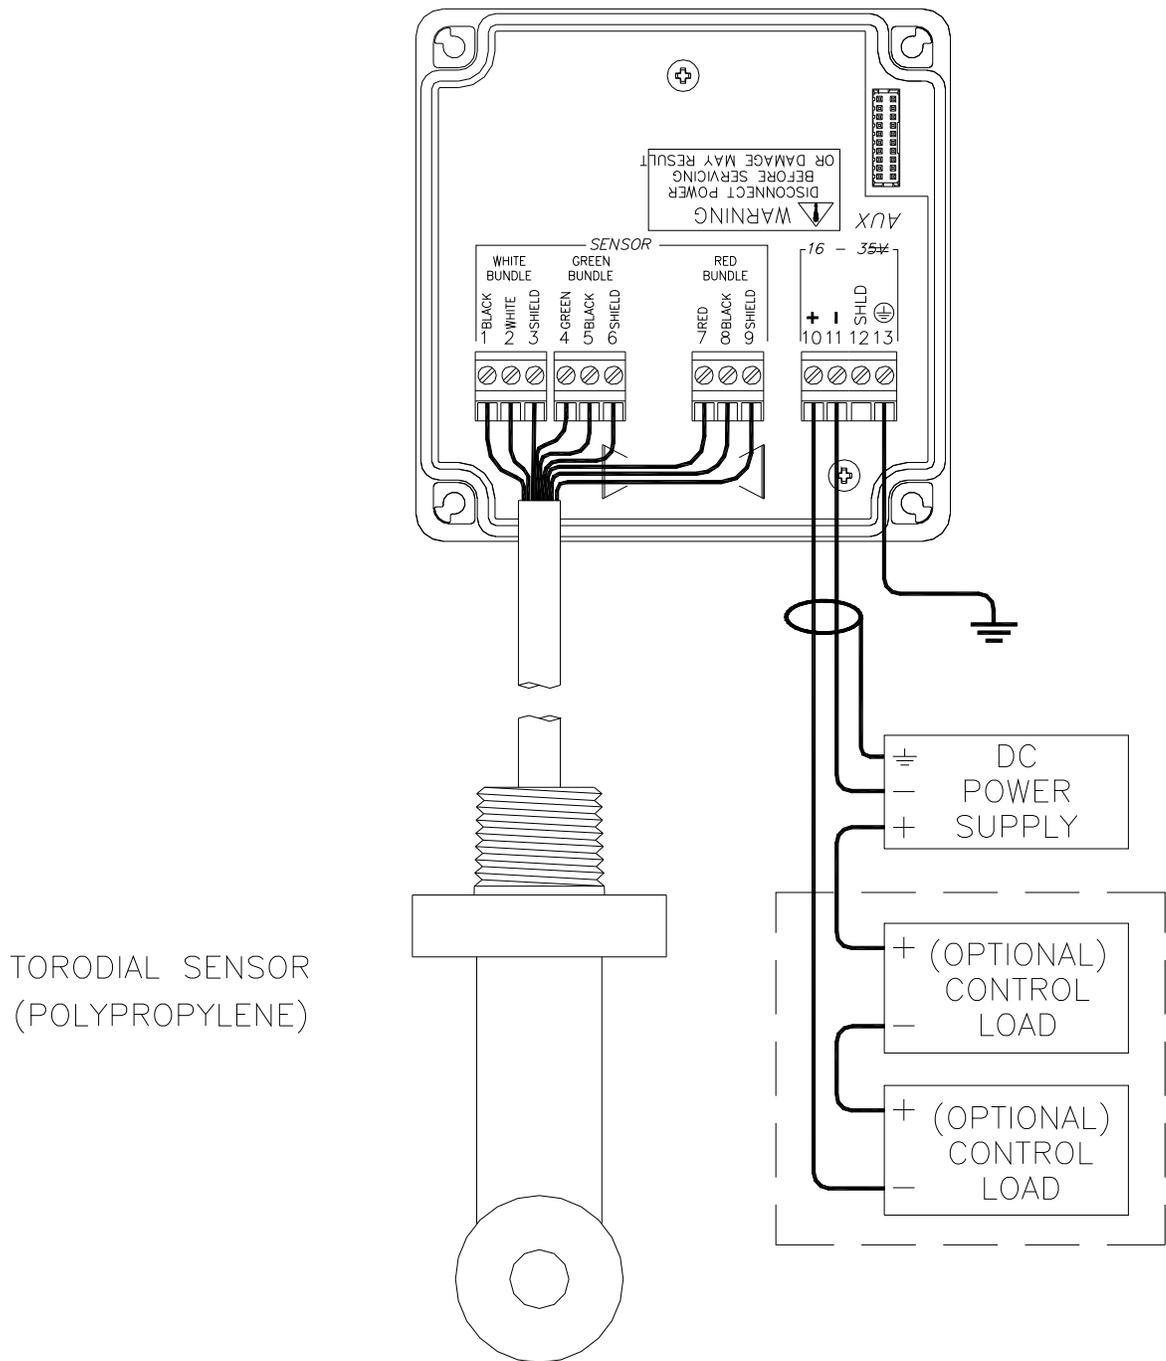

Figure 4-1 Loop-Power Connection, CT700 Transmitter
1. Use wiring practices that conform to all national, state and local electrical codes. For proper safety as well as stable measuring performance, it is important that the earth ground connection be made to a solid ground point (Figure 4-1). The AC power supply contains a single 100Ma (115V) or 50mA (230V) slo-blo fuse. The fuse **F1** is located adjacent to **TB5** and is easily replaceable.
In the two-wire configuration, a separate DC power supply must be used to power the instrument. The exact connection of this power supply is dependent on the control system into which the instrument will connect. See Figure 4-1 for further details. Any twisted pair shielded cable can be used for connection of the instrument to the power supply. Route signal cable away from AC power lines, adjustable frequency drives, motors, or other noisy electrical signal lines. Do not run sensor or signal cables in conduit that contains AC power lines or motor leads.
Sensor connections are made in accordance with Figure 4-1. The sensor cable can be routed into the enclosure through one of cord-grips supplied with the unit. Routing sensor wiring through conduit is only recommended if a junction box is to be used. Some loose cable is needed near the installation point so that the sensor can be inserted and removed easily from the flowcell.